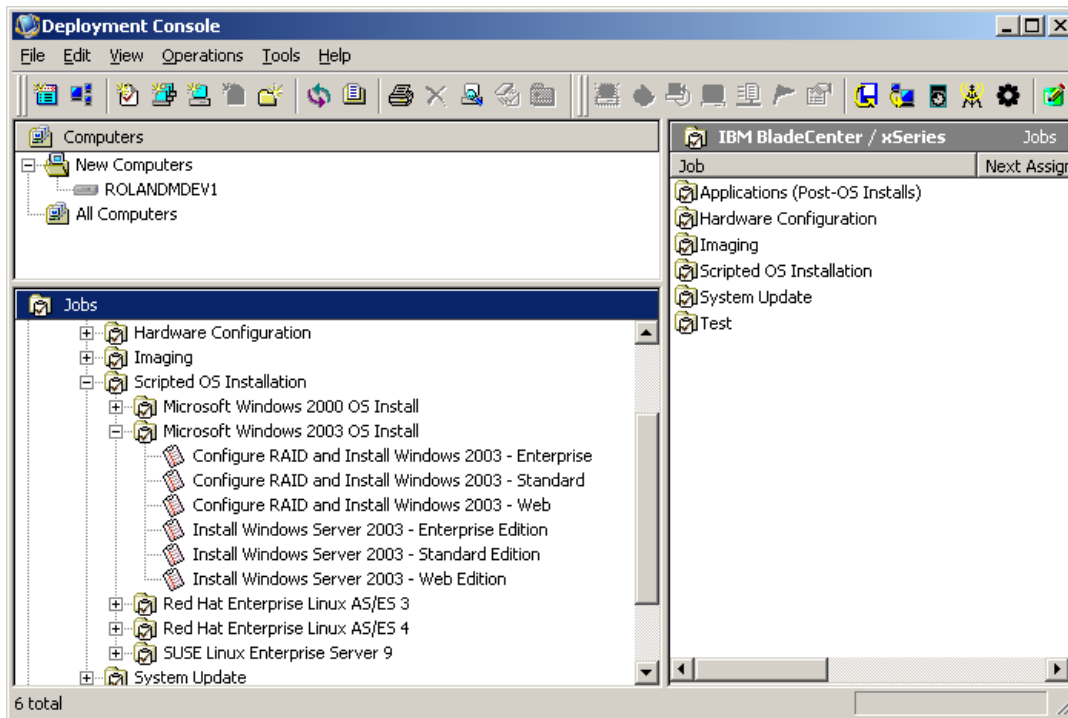

Figure 5-5 Deployment Console with the Microsoft Windows 2003 Scripted OS install jobs
2. In the Jobs pane, explore to the following folder: IBM ServerGuide Scripting Toolkit - *version (release\_date)* → IBM BladeCenter / xSeries / eServer Support → Scripted OS Installation as shown in Figure 5-5 on page 146. In this folder are a number of other folders that contain the jobs for each version of supported operating systems.